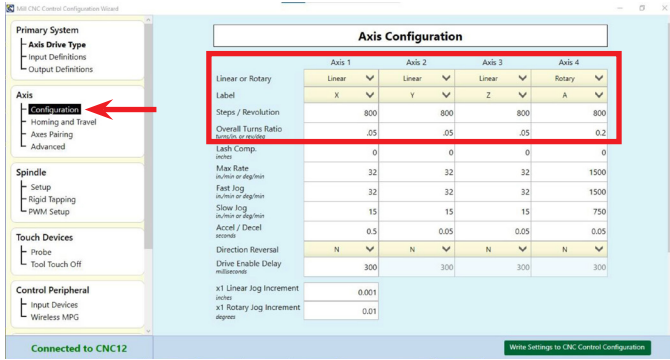

FIGURE 12—Axis configuration for leadscrew mills.
1. Axis Configuration: See Figures 12 and 13 for leadscrew and ball screw axis configurations, respectively.